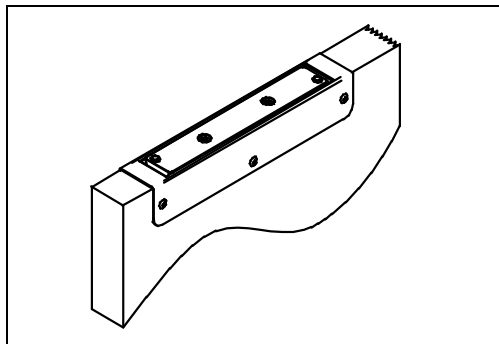

Figure 5
Place the reinforcement bracket on top of door and align over the strike assembly area. Mark the six (6) holes on both sides of the door. Remove the bracket and drill the holes using the 9/64" drill 5/8" – 3/4" deep. Place the reinforcement bracket back on top of the door and install the six (6) screws provided as shown in Figure 5.